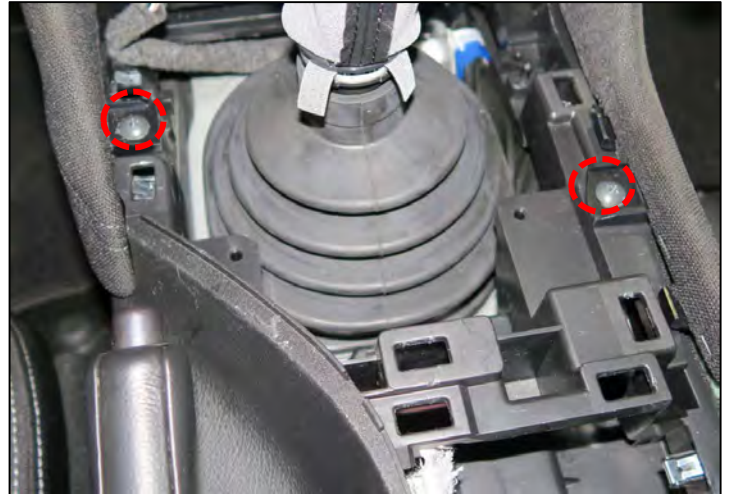

Figure 28
29. Remove the (2) screws from the console side finishers shown in Figure 28.